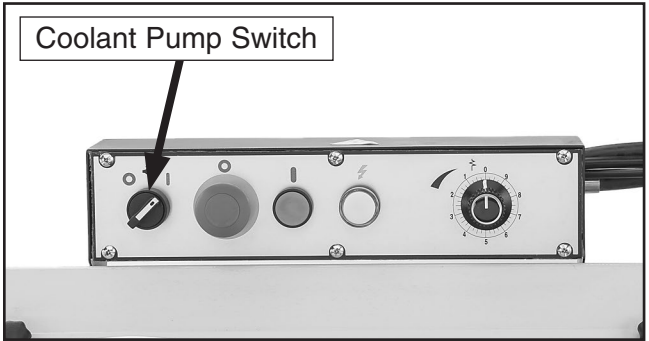

Figure 15. Coolant pump switch location.
- Start machine, then turn coolant pump switch to ON position (see **Figure 15**). Verify that coolant flows through nozzles into tubing and blade guides, then turn pump **OFF** and press Emergency Stop button.